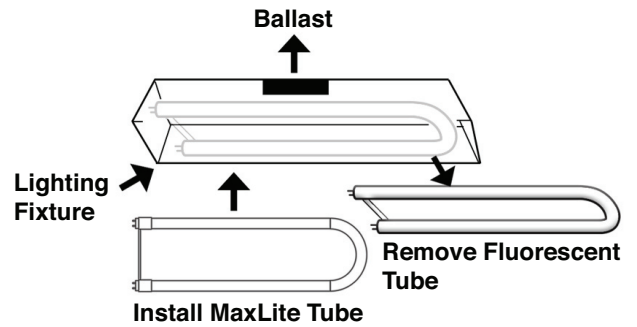

Figure 2. - Install MaxLite Retrofit U-Bend lamp
8. Install the MaxLite T8 U-Bend lamp into the fixture. (See Figure 2)